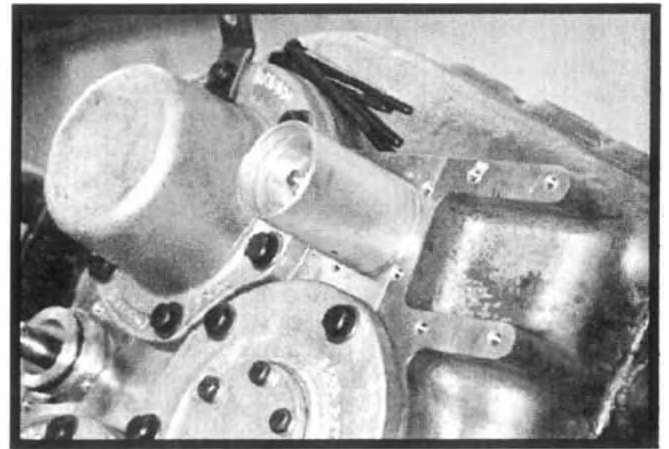

Figure 6.56
44. Soak the felt strip in gear oil and install in its groove on the piston. Slip the air shift cylinder into position over the piston. See Figure 6.56. Note that this cylinder is longer than the rear output shift cylinder.